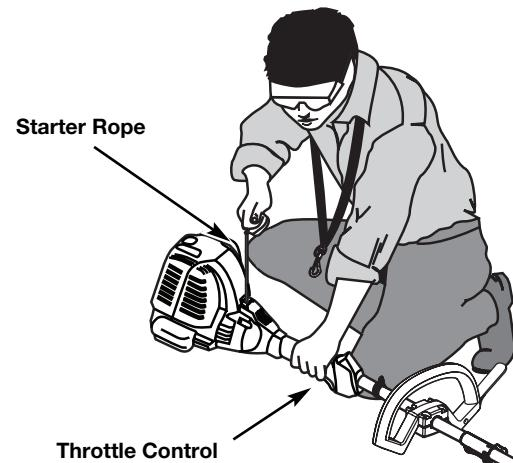

Fig. 21
**WARNING:** Avoid accidental starting. Make sure you are in the starting position when pulling the starter rope (Fig. 21). To avoid serious injury, the operator and unit must be in a stable position while starting.
6. Crouch in the starting position (Fig. 21). Press the throttle lockout in and squeeze the throttle control lever. Pull the starter rope briskly 5 times.